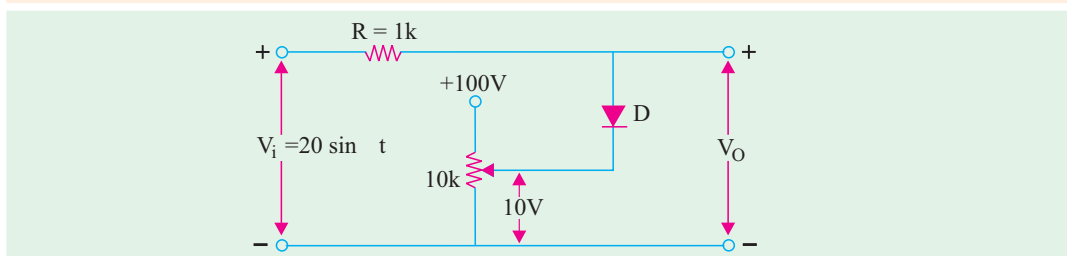

Fig. 52.23
**Example 52.15.** In Fig 52.23 draw input and output waveforms to scale. Consider diode forward resistance of 50 ohms. (Nagpur Univ. Winter 2003)